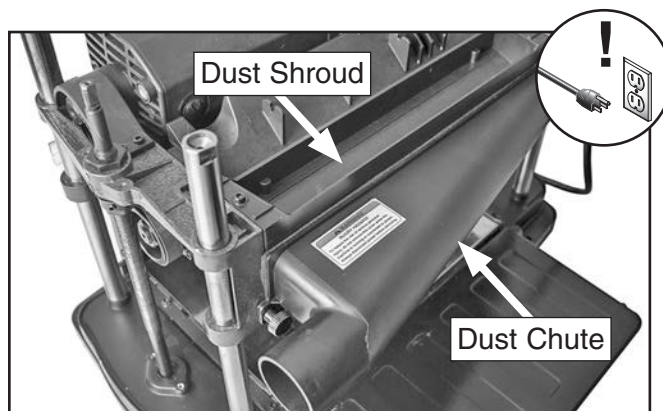

Figure 21. Components to be removed to access cutterhead.
2. Lower cutterhead as far as it will go, then remove dust chute and dust shroud from headstock (see **Figure 21**).